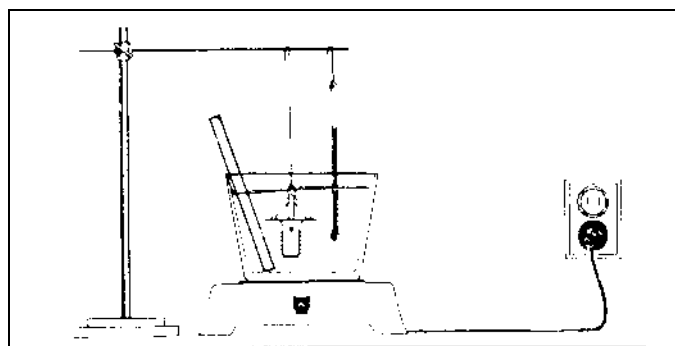

Figure 12-9 Thermostat Testing
1. Suspend the thermostat and thermometer in a container of water as shown in Figure 12-9. Do not allow the thermostat or thermometer to touch the container.